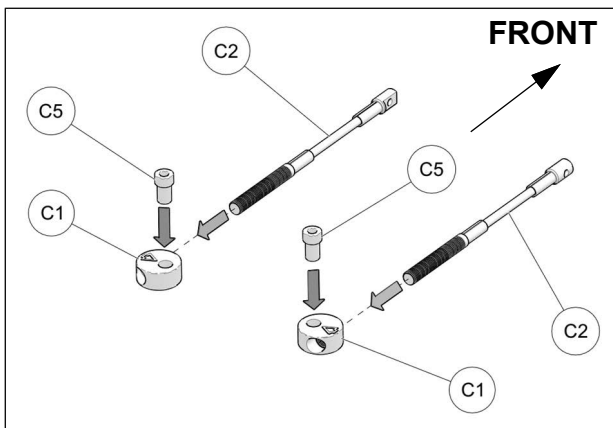

Fig. 21
13. Assemble steering limiter cables (C2), aluminum disks (C1) and step spacers (C5) together as shown on Fig. 21